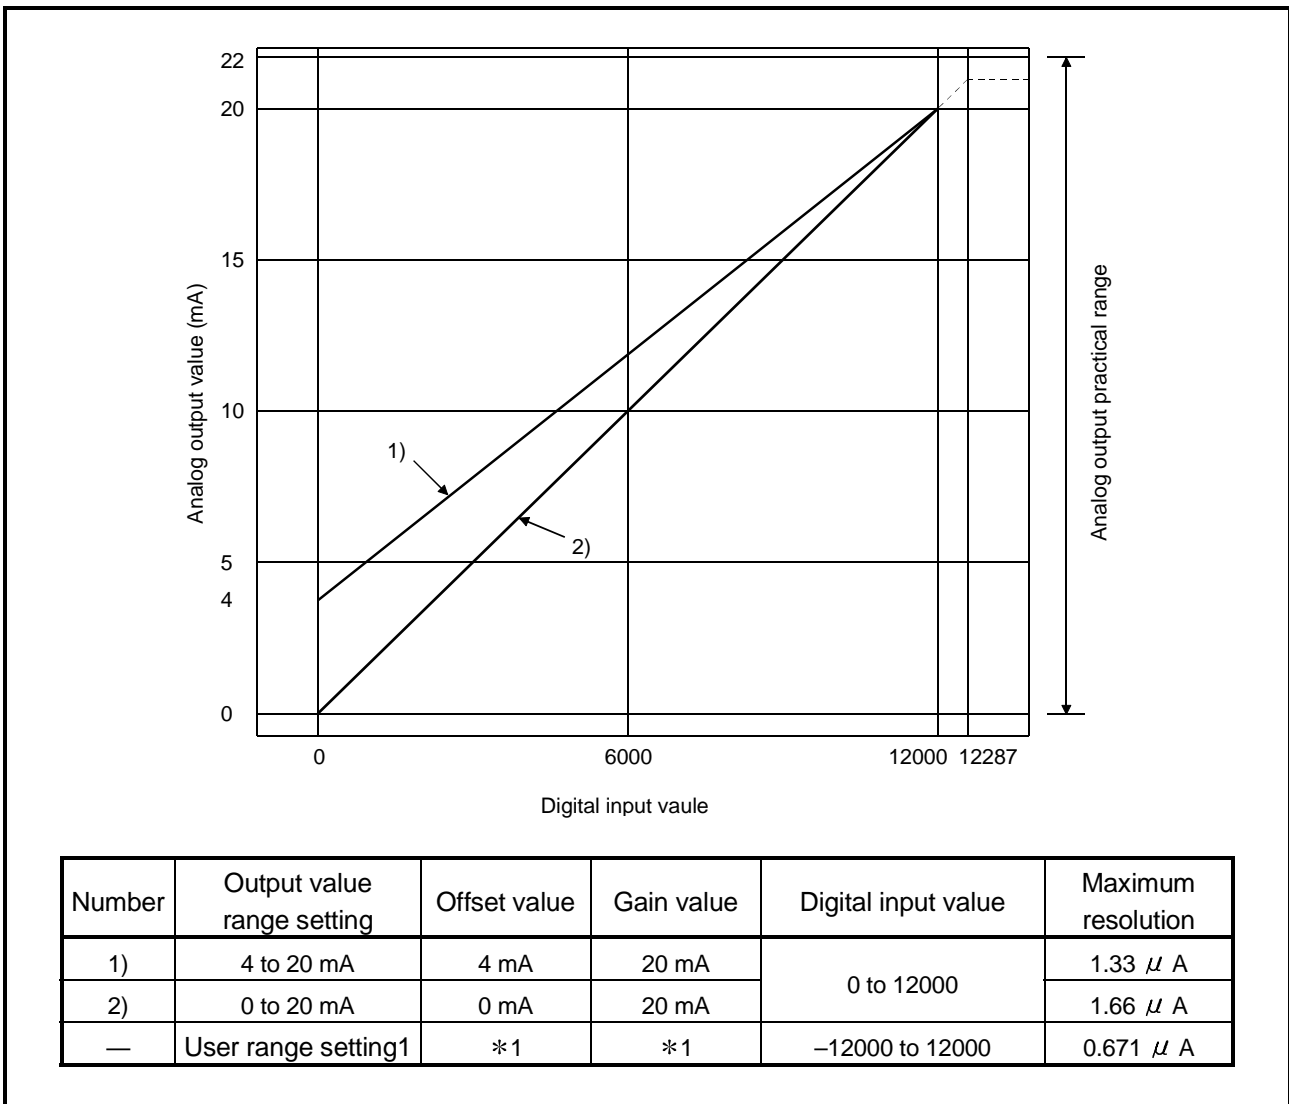

Figure 3.2 Current output characteristic
Figure 3.2 shows a graph of the current output characteristic.
<p>(1) Set within the digital input range and analog output range for each output range. If these ranges are exceeded, the maximum resolution and accuracy may not fall within the performance specifications. (Avoid using the dotted line area shown in Figures 3.2.)</p> <p>(2) Set the offset/gain values for the user range setting1 *1 within a range in which the following conditions are satisfied.</p> <p>(a) Setting range is from 0 to 22 mA</p> <p>(b) { (Gain value) – (Offset value) } > 10mA</p>